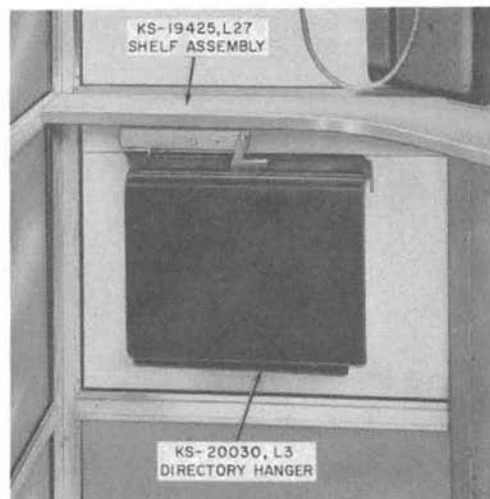

Fig. 10—KS-19425, List 27 Shelf Assembly with KS-20030, List 3 Directory Hanger
- 2.19 Refer to Fig. 10 through 12.
- 3.20** There are two shelf assemblies, a directory rack, a directory hanger and a directory shelf available for the booth. Install, when required, as follows (see Fig. 10 through 12):
- (a) **KS-19425, List 27 Shelf Assembly and KS-20030, List 3 Directory Hanger (Fig. 10).**